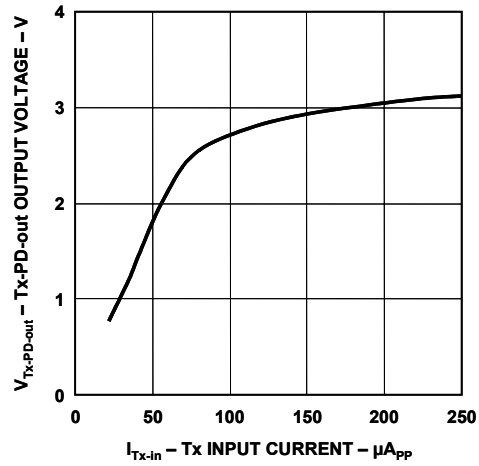
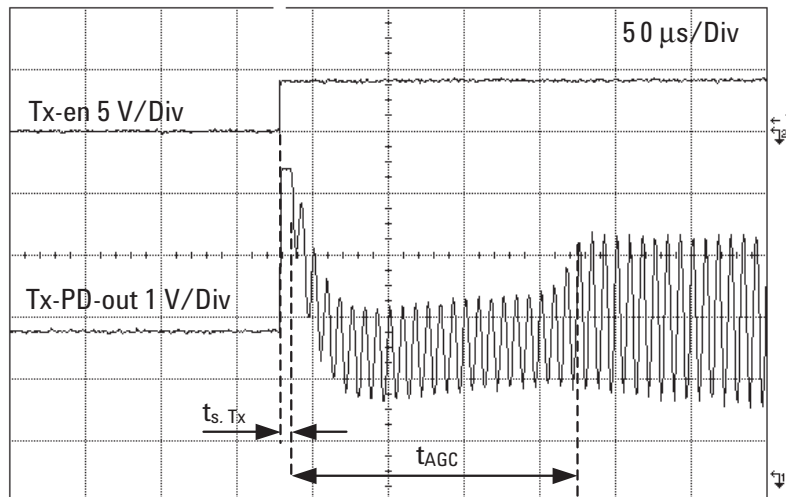

Figure 8. Tx-PD-out output voltage vs. Tx-in input current.
Figure 26. Tx-PD-out AGC response time.
- Time from transmit is enabled (V_{Tx-en} is set to logic high) until output (Tx-PD-out) is available. See Figure 26 in the Application Information section.
- Time from output (Tx-PD-out) is available until Tx-PD-out signal reaches 66% of its steady state level. See Figure 26 in the Application Information section.
variations in the optical channel over temperature and time. The Tx-PD-out output signal is effectively stabilized for input Tx-in signals of between $150 \mu\text{A}_{\text{PP}}$ and $250 \mu\text{A}_{\text{PP}}$ (see Figure 8). The AGC circuit starts to function $10 \mu\text{s}$ after the Tx-en signal is set to logic high. After a period of $180 \mu\text{s}$ the Tx-PD-out signal typically reaches 66% of its steady state level (see Figure 26). To ensure correct operation of the internal circuitry, an external $1 \mu\text{F}$ capacitor needs to be connected from pin 11 to GND2.